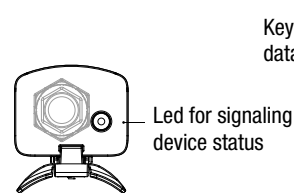

Figure 1
- Red / green / orange led for signaling device status (Figure 1)